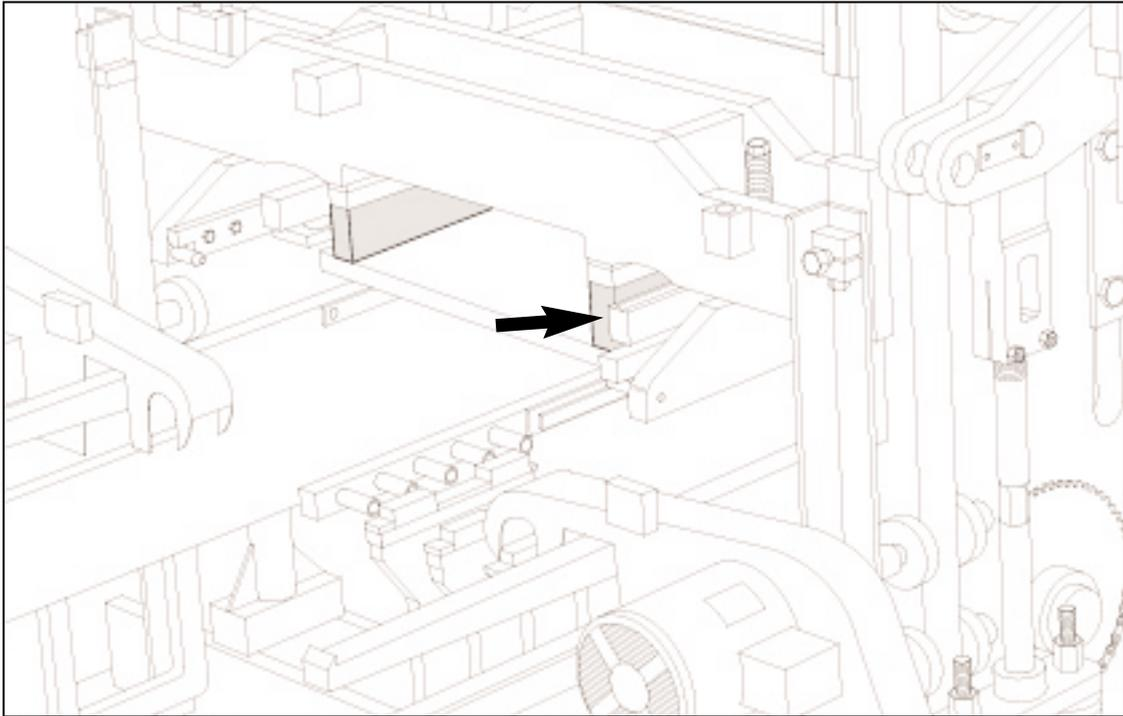

Figure 4.46 95mm [3 3/4"] BLOCKING UNDER STRIPPER HEAD FRAME.
4.3.9 The ULTRAPAC II is now ready for the installation of the mold assembly. Follow the directions for installing an attachment in section 5 of this manual. When installing the stripper head, use **356mm [14"]** long bolts (**part #087159**) and insert **95mm [3 3/4"]** of blocking in addition to the **38mm [1 1/2"]** blocks already affixed to the stripper head frame (figure 4.46).